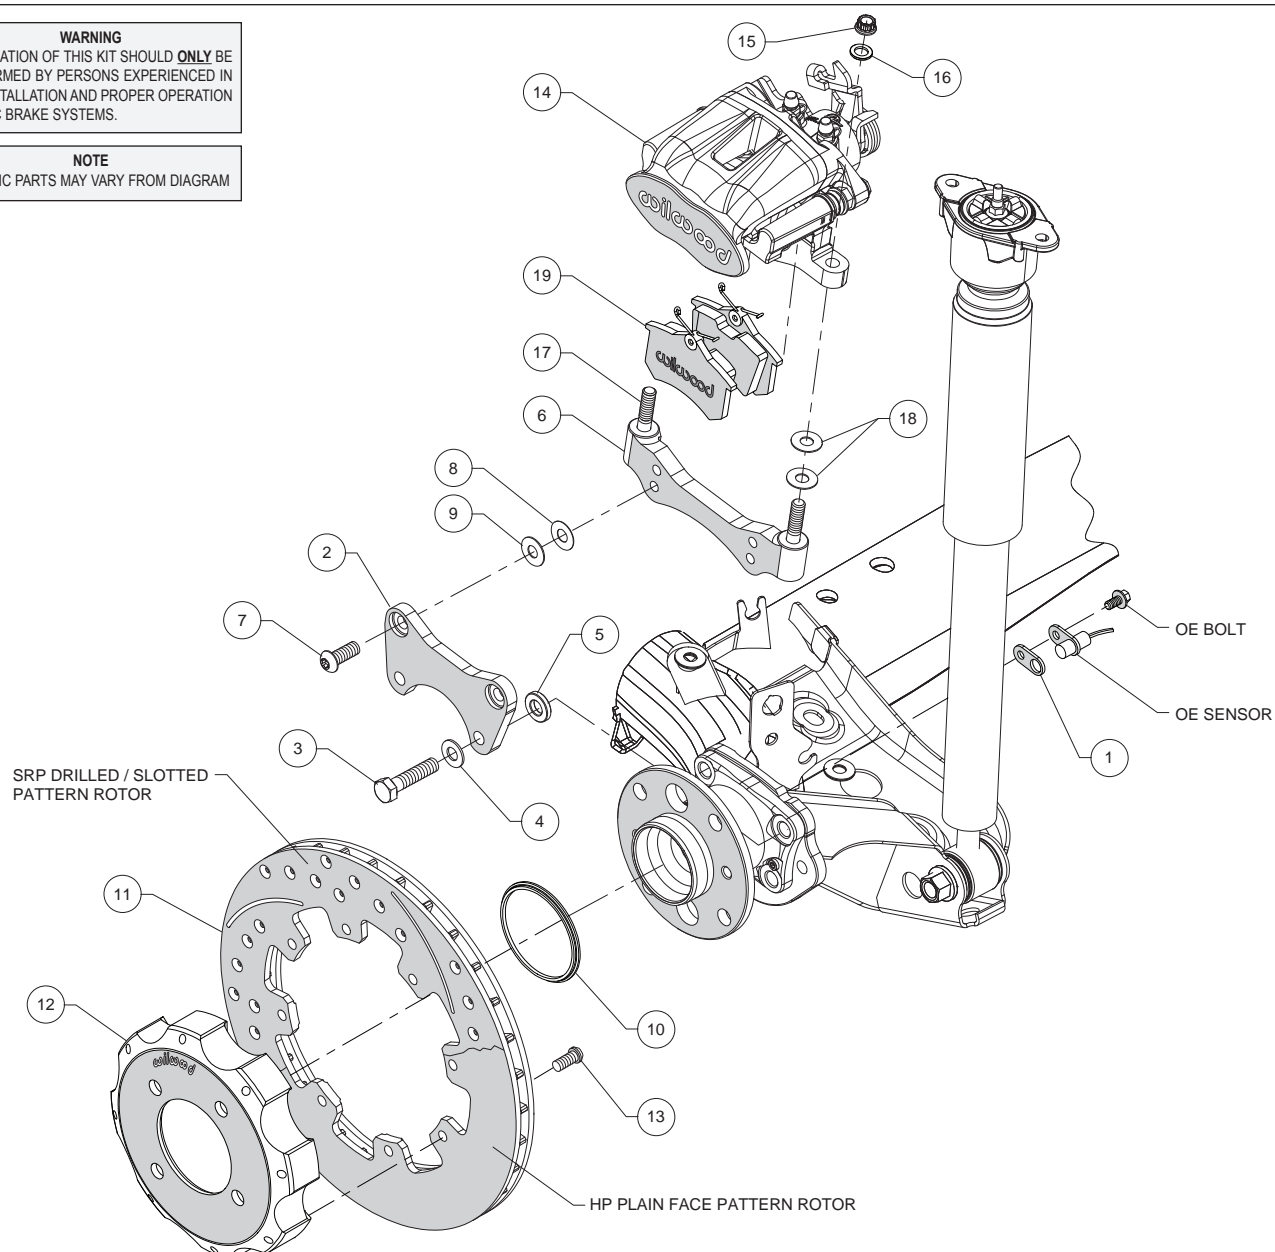

Figure 1. Typical Installation Configuration
- Remove the Original Equipment Manufacturer (OEM) bolt that secures the sensor from the backside of the upright. Place spacer (1) between sensor and upright as shown in Figure 1, and secure with OEM screw.
- The flat bracket (2) should initially be installed with clean, dry threads on the mounting bolts. Orient the bracket as shown in Figure 1 and Photo 1, and install using mounting bolt (3), washer (4), and spacer (5) placed between the bracket and upright. Temporarily tighten the mounting bolts. **NOTE:** The bracket must fit squarely against the mount bosses on the upright. Inspect for interference from casting irregularities, machining ridges, burrs, etc. After the bracket fitting has been confirmed, remove the mounting bolts one at a time and coat the threads with red *Loctite*® 271. Torque bolts to 45 ft-lbs.
- The caliper mount bracket (6) should initially be installed with clean, dry threads on the mounting bolts. Orient the bracket as shown in Figure 1 and Photo 2, and install using mounting bolt (7). Initially place one each .035" thick shim (8), and .016" thick shim (9) on each bolt between the flat bracket (2) and the caliper bracket, Figure 1. Later, after the caliper alignment has been checked, the mount bolts will be secured using red *Loctite*® 271.
- Orient the rotor (11) and the hat (12) as shown in Figure 1 and Photo 3. Attach rotor to hat using bolts (13). Using an alternating sequence, apply red *Loctite*® 271 to the threads, and torque to 25 ft-lb.
- Slide the rotor registration adapter (10) onto the axle register on the axle hub with the smaller O.D. facing outward, Photo 4. Slide the hat/rotor assembly onto the axle hub, Photo 5. **NOTE:** The hat must fit flush against the axle hub flange or excessive rotor run out may result. Install three lug nuts (finger tight) to keep the hat/rotor assembly in place while continuing with the installation.
- Slide the brake pads (19) up into the caliper (14) from the bottom with the friction material facing the rotor until the "V" spring clip snaps into place against the anvil, as shown in Figure 1 and Photo 6. They should install easily without interference.
•Lubricate the caliper mounting studs (17) with lightweight oil. Initially place two .035" thick shims (18) on each stud as shown in Figure 1. Mount the caliper (14) onto the caliper mounting bracket (6) using washers (16) and lock nuts (15), as shown in Figure 1 and Photo 7. Temporarily tighten the mounting nuts and view the rotor (11) through the top opening of the caliper. The rotor should be centered in the caliper, Photo 8. If not, adjust by adding or subtracting .016" shims (9) and/or .035" shims (8) between the caliper mounting bracket and the flat bracket (2) to center the caliper on the rotor. Always use the same amount of shims on each of the two mounting bolts. Once the caliper alignment and pad centering are correct, remove the bracket-to-bracket bolts one at a time, apply red *Loctite*® 271 to bolt threads, and torque to 45 ft-lb.